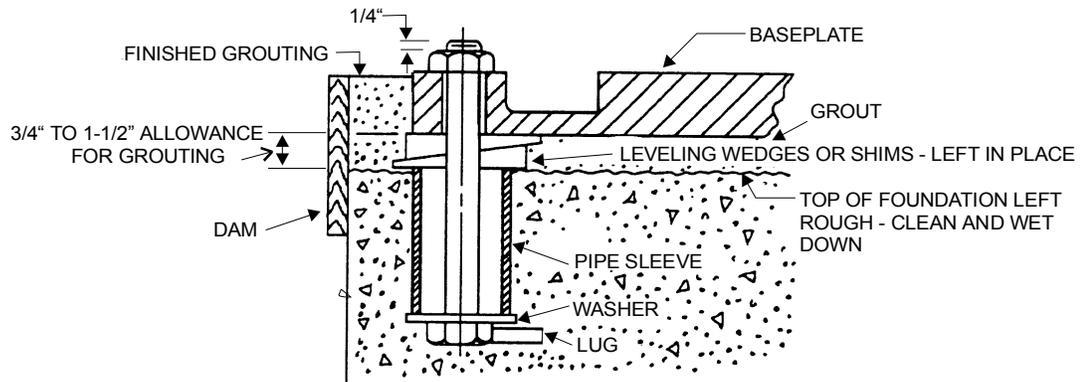
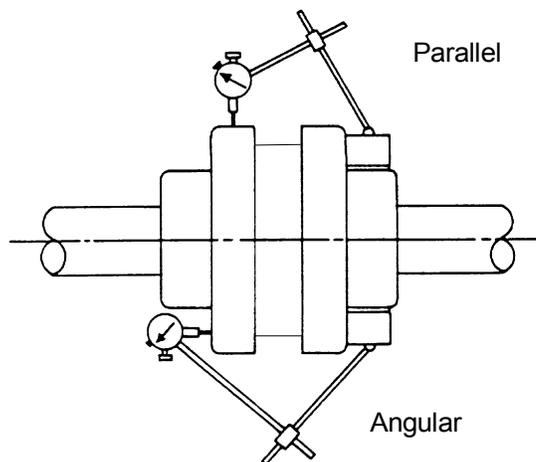
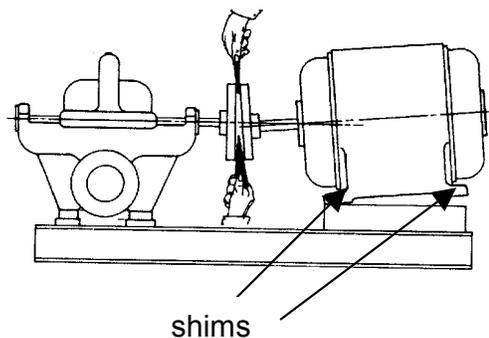

Figure 4. Grouting and Foundation Bolting
Figure 6. Coupling Alignment
Figure 7. Adjusting Alignment
Hydraulic Institute (HI) recommends a foundation capable of absorbing vibration at least five times the weight of the pumping unit and to form a permanent, rigid support for the base plate. Consequently, maintaining the alignment is important for a flexible coupled unit. Refer to Figure 6 and Figure 7 illustrating alignment. A concrete foundation on a solid base is recommended. Use foundation bolts of the proper size embedded into the concrete. A pipe sleeve larger in diameter than the bolt should be used. This allows movement for final positioning of the bolts. Refer to Figure 4, Grouting and Foundation Bolting.
1. Lightly tighten foundation bolts evenly but not fully. Refer to Figure 4, Grouting and Foundation Bolting.
The coupling should NOT be reconnected until the alignment has been completed. Align coupling using a dial indicator to attain more accurate coupling alignment. Refer to Figure 6, Coupling Alignment.
The corrections, which are made to the alignment in one direction, may affect the alignment in the other direction. Angular and parallel misalignment are corrected by means of shims. The shims are placed under the driver mounting feet to align the coupling. Refer to Figure 7, Adjusting Alignment.
If necessary, the coupling should be realigned after installing piping. Realign, if necessary, by adjusting the driver end. Refer to Figure 7.